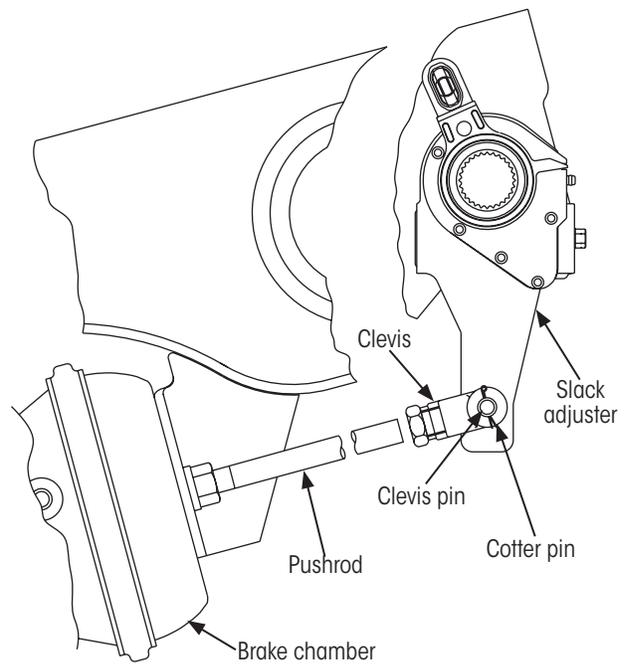

Figure 10: Brake chamber/slack adjuster connection
18. **Attach** the clevis of the brake chamber pushrod to the slack adjuster using the clevis pin (Figure 10).